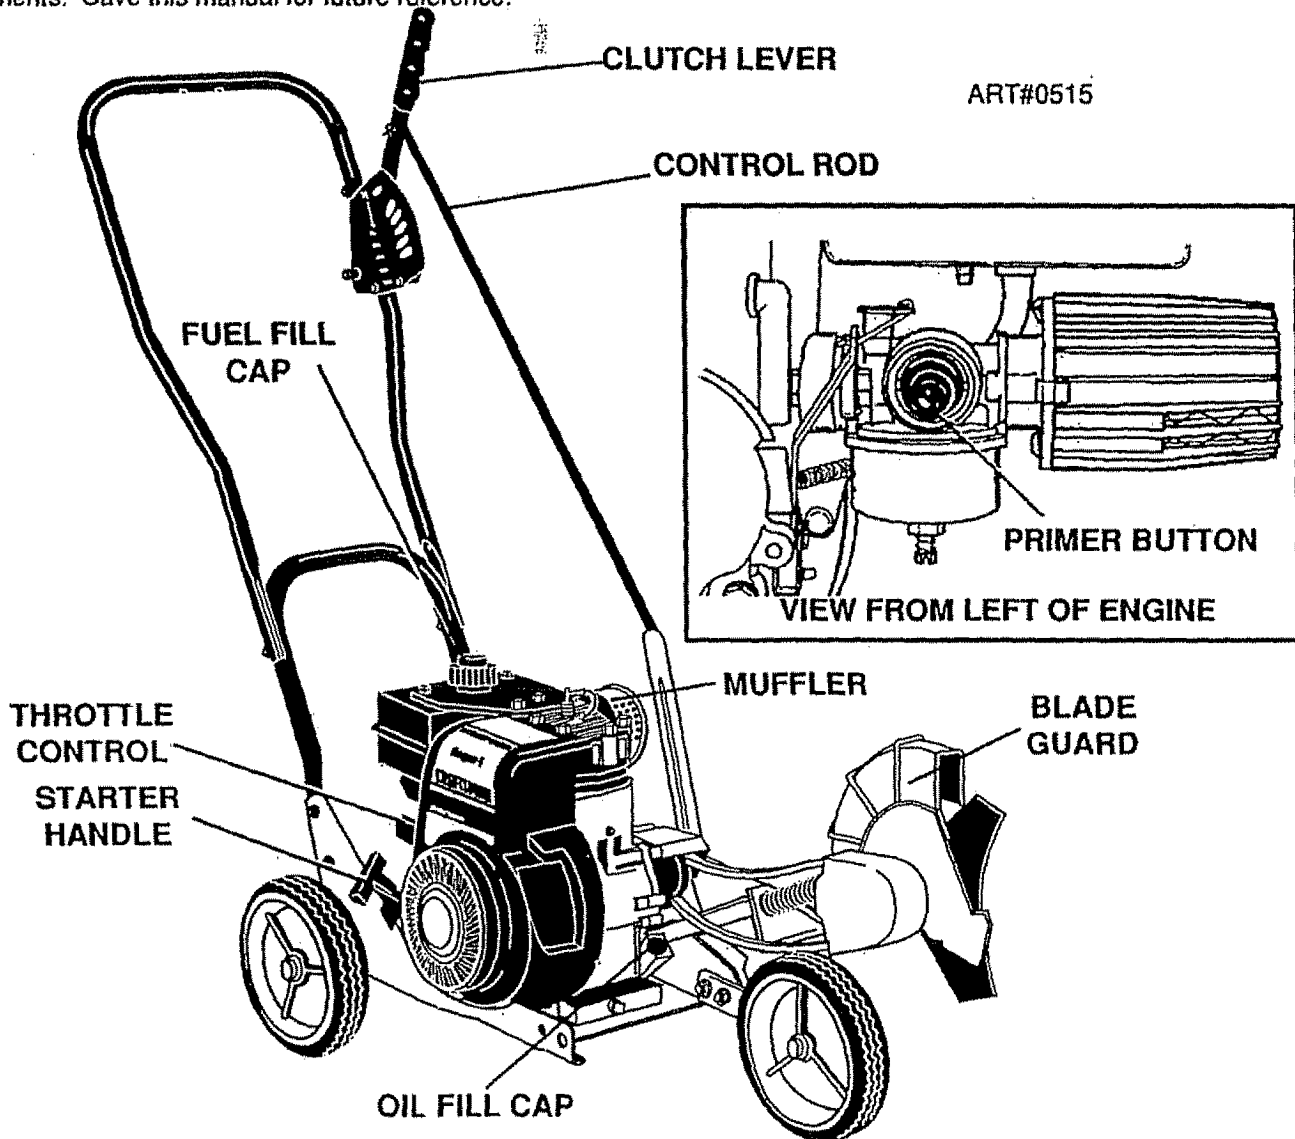

FIG. 6
- Push primer button five (5) times (see Fig. 6). Wait about two (2) seconds between each push.
- Move the clutch lever into all six (6) positions in the selector plate. Make sure the clutch lever snaps into all six (6) holes. (Fig. 6)
- Move the throttle control lever (See Fig. 6) to the RUN position.
**NOTE:** If engine fails to start after three (3) pulls, push primer button two (2) times and pull starter rope again.
**WARNING - AVOID THE MUFFLER AND SURROUNDING AREAS (SEE FIG. 6). TEMPERATURES MAY EXCEED 150° F.**